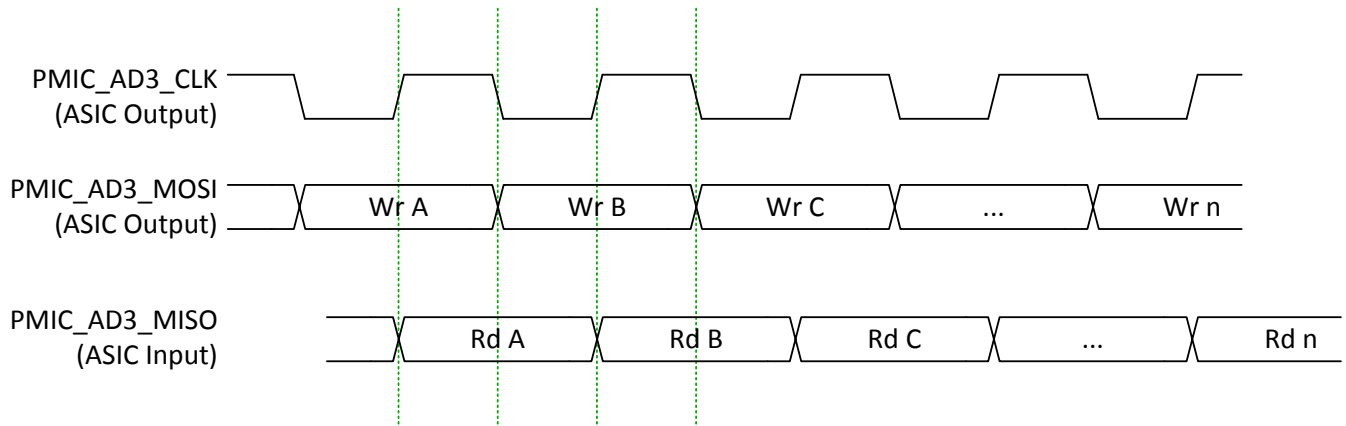

Figure 6-12. TPS99000S-Q1 AD3 Data Capture and Transition
- (1) The DLPC230S-Q1 communicates with the TPS99000S-Q1 using a slight variant of SPI Transfer Mode 0 (that is, clock polarity = 0, clock phase = 0). Instead of capturing MISO data on the clock edge opposite from that used to transmit MOSI data, the DLPC230S-Q1 captures MISO data on the same clock edge used to transmit the next MOSI data. As such, the DLPC230S-Q1 SPI interface to the TPS99000S-Q1 requires that MISO data from the TPS99000S-Q1 remain active until the end of the full clock cycle to allow the last data bit to be captured. This is shown in Figure 6-12.